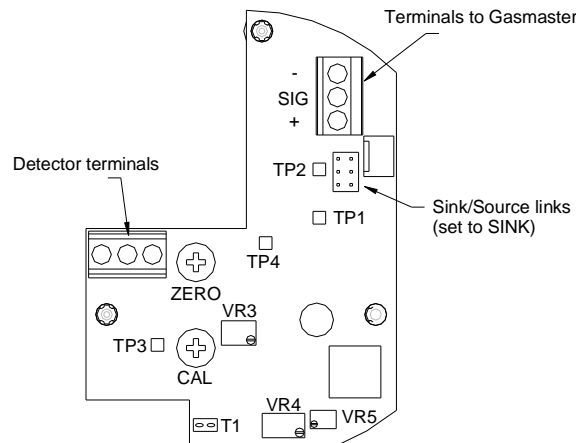

Figure 3 Amplifier PCB Layout
1. When the detector has been connected, ensure that the 'Head Volt' potentiometer VR5 (see figure 3) on the amplifier PCB is set to its fully clockwise position (a clicking sound will be heard when the potentiometer travel is at its limit). This will ensure excessive voltage is not applied to the detector when power is applied.
5. The amplifier must be balanced to achieve correct operation. Connect a volt meter set to the mV range to test points T1 (see figure 3), and adjust VR4 until the meter reads '0.00mV'. Re-connect the test leads to test points TP3 and TP4 and adjust VR3 until the meter reads '0.00mV'. the detector and amplifier are now balanced
6. Connect a volt meter to the test points marked 'TP1' and 'TP2' (see figure 3). **Ensure the detector is in clean air** and adjust the potentiometer marked ZERO (VR1) so that the meter reads 40mV. Check the Gasmaster channel display reads zero, if adjustment is required follow the instructions given in the Gasmaster manual.